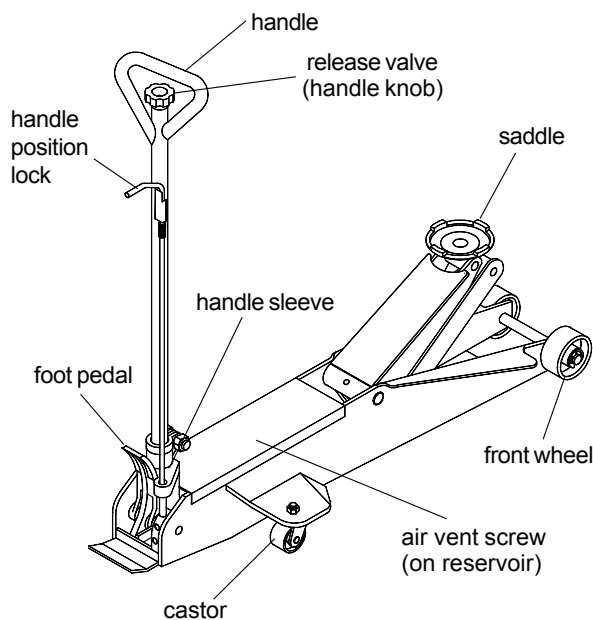

Figure 1 - Model 25057 & 25107 Components
1. Verify that the product and application are compatible, if in doubt call Omega Technical Service (888) 332-6419.
5. Ensure that jack rolls freely. Unlock the handle by pulling up on the handle position lock lever and rotating lever clockwise until it rests upon the lever bracket as seen below in Figure 1. Pump the handle or use the foot pedal to raise and lower the unloaded saddle throughout the lifting range before putting into service to ensure the pump operates smoothly. Replace worn or damaged parts and assemblies with Omega authorized replacement parts only. The foot pedal is for positioning the unloaded saddle to contact the lift point, at which time the handle must be used to raise the load.